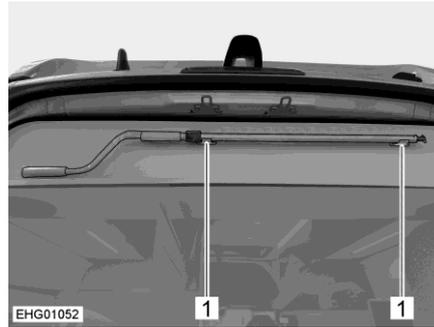

Fig. 13 Crank in holder (optional equipment)
- ▷ The crank for the awning is supplied loose as standard. A holder (Fig. 13,1) for the crank is available as optional equipment.